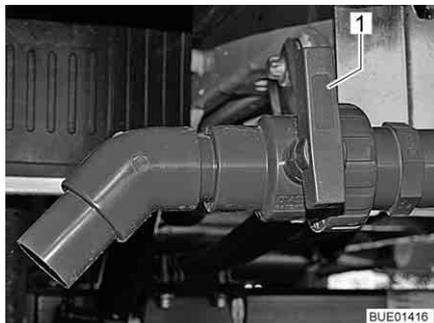

Fig. 238 Drain cock (Viseo)
- Turn the handle (Fig. 238,1) of the drain cock in flow direction.